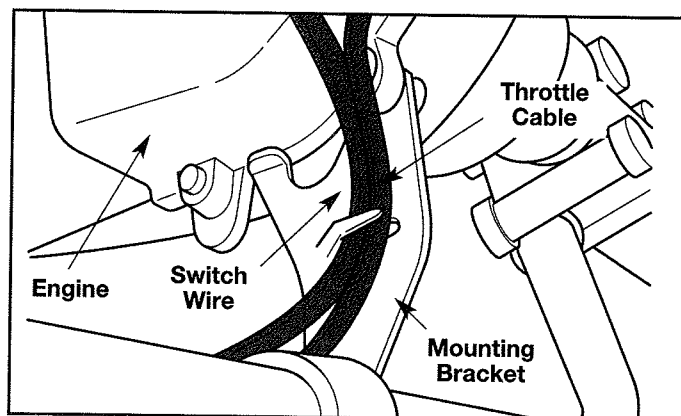

Fig. 13
8. Route the ignition switch wire and then the throttle cable through the clip on the right handlebar mounting bracket (Fig. 13).